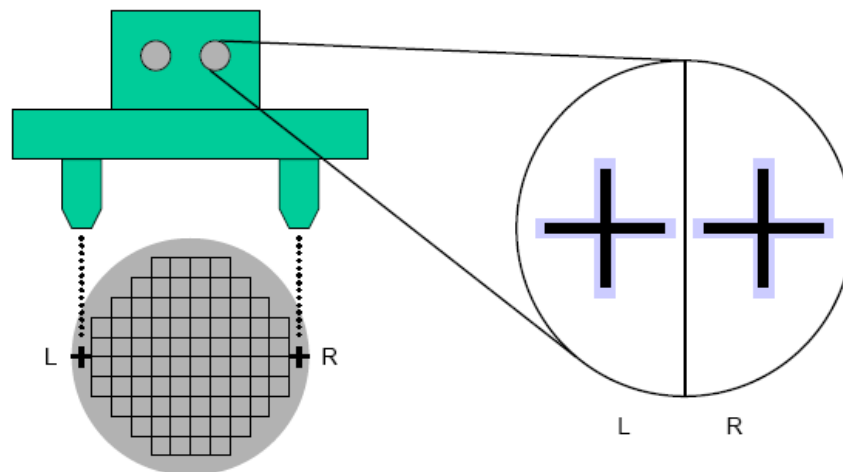

Fig. 3 The Split-field microscope to align the wafer to the mask
- c) **Photomask to Wafer Alignment:** This procedure involves a pattern alignment and preliminary preparation for UV-light exposure. The mask aligner microscope actually has two objective lenses side by side and in the split field mode, the image seen is split in half with the left image corresponding to one location of the substrate and the right half corresponds to another location of the substrate. Figure 3 shows how the wafer should be aligned.